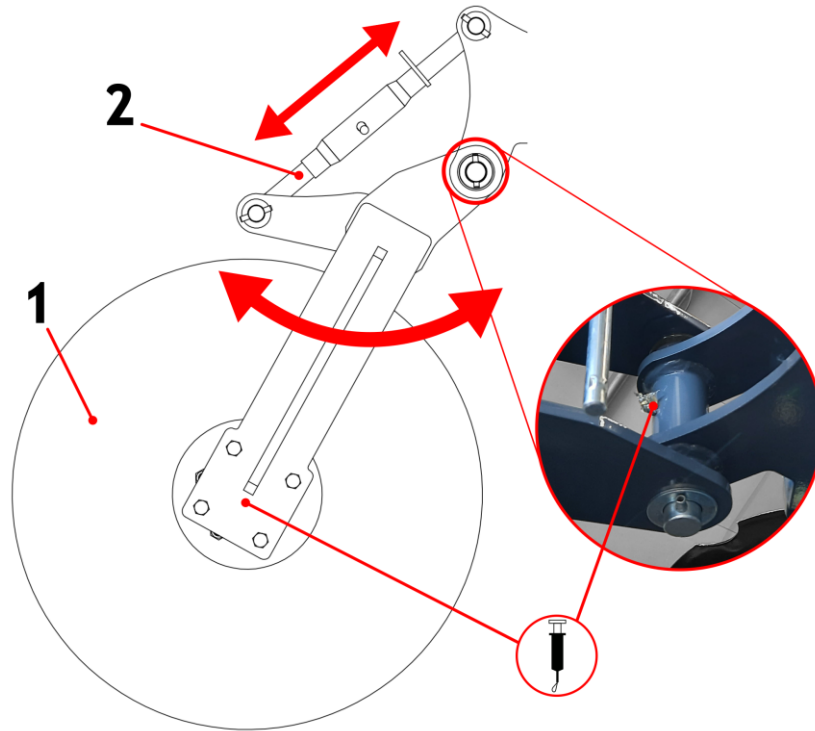

Figure 46 General Construction of the support wheel with lubrication points (1 - wheel with hub, 2 - screw jack)
The support wheel is designed to help maintain the specified working depth during the operation of the disc harrow and to keep the machine balanced both during operation and transport. It is mounted on the arm of the side frame on both the right and left sides. By using the installed screw jack (Fig. 46, item 2), we can adjust the position of the wheel relative to the machine, raising or lowering it. The higher the support wheel is raised, the shallower the working depth of the unit. To ensure proper operation of the wheel, the tire pressure must be monitored.